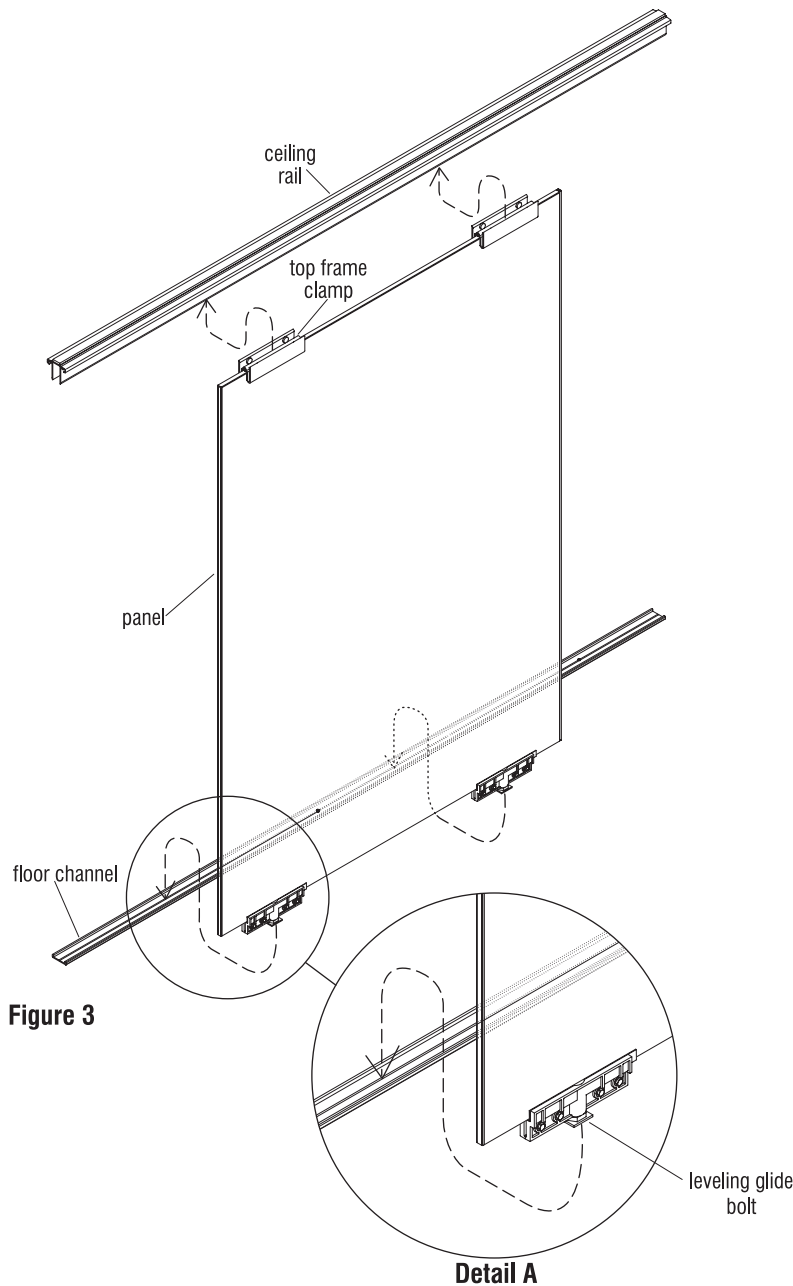

Figure 3
2. With assistance of a second person, using rubber suction cups, set the panel upright next to the ceiling rail it will install to. Carefully tip the top of the panel frame toward the ceiling rail and nest the top frame clamp onto the ceiling rail. Then lifting the top up under the rail, set the bottom of the panel frame onto the floor channel and hold plumb securely (Figure 3).
3. With a second person holding the panel upright and stable, adjust the panel height up enough to nest up into the ceiling rail. **Follow "Panel Height Adjustment" instructions on page 21 to properly level panels and secure to top frame channel** (Figure 3).